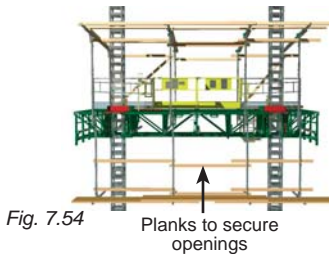

Fig. 7.54
- 7- Slide 2" x 4" (5 cm x 10 cm) planks in the middle and bottom angle brackets on the vertical posts to secure the hazardous opening at the back of the lower level structure (fig. 7.54). Secure the planks in place with nails or screws.